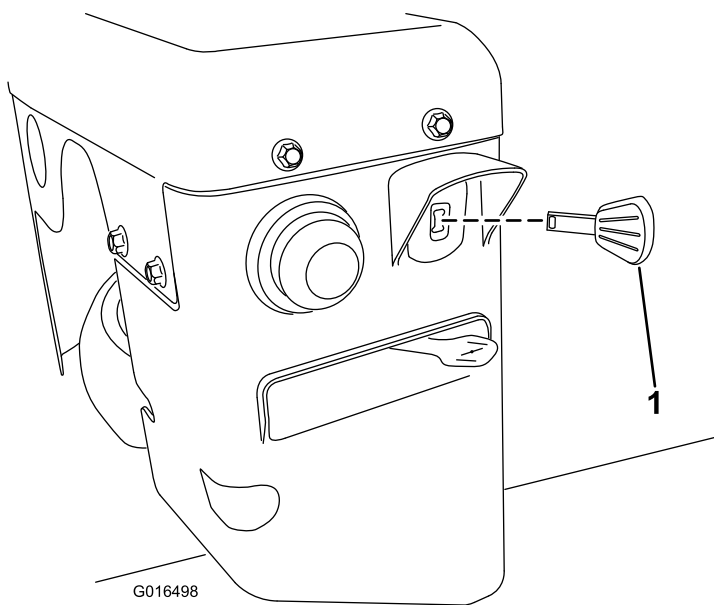

Figure 17
3. Fully insert the ignition key (Figure 17).